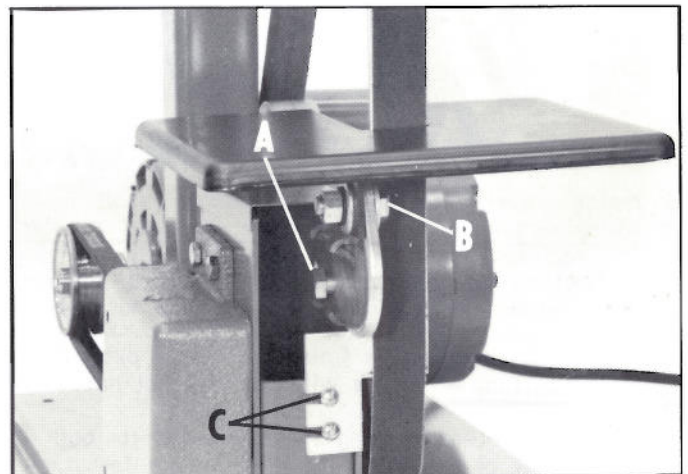

Fig. 16
The table of your Sander/Grinder can be moved in or out, by loosening Lock Screw (A) Fig. 16, and sliding the table in or out until the desired position is obtained. Then tighten Lock Screw (A). To remove the table, loosen lock screw (A) Fig. 16, and pull the table straight out.
To tilt the table, loosen nut (B) Fig. 16, tilt the table to the desired angle, and tighten nut (B). The table will tilt from the usual horizontal position to a 10 degree back or 90 degree forward angle, permitting a wide range of beveling.
When using your machine for "strapping" or other special operations, the platen should be removed in order to have the Abrasive Belt loose. To remove the platen, loosen the two screws (C) Fig. 16, and remove the platen from the machine.